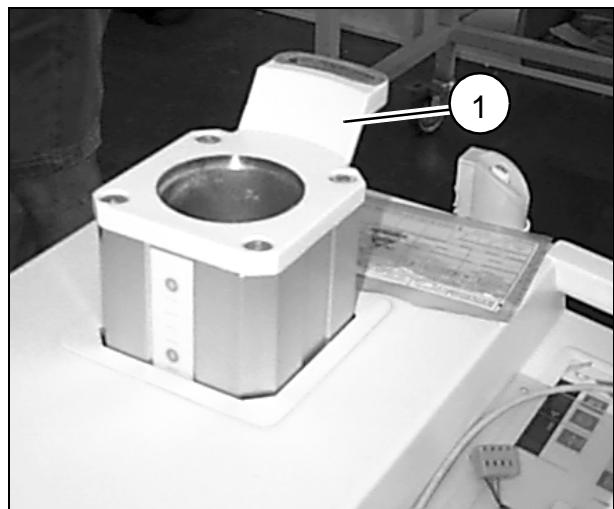

Fig. 4
- Install the C-arm mounting in the lifting column (1/Fig.4).
- Remove the C-arm mounting again from the lifting column (1/Fig.4) by removing the screws.